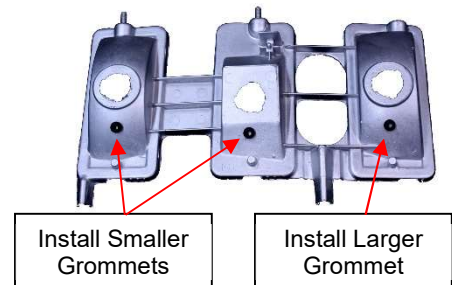

Figure 1
2. On the bottom surface of the center and inboard light cells within the housing, drill a 5/16" diameter hole and deburr hole. (See Figure 1) Then install a provided smaller rubber grommet into each of the drilled holes. On the bottom surface of the outboard light cell within the housing, drill a 3/8" diameter hole and deburr hole. Then install a provided larger rubber grommet into the drilled hole. The exact location of the holes are not critical. Note, one method to simplify installation is to pinch grommet, insert protruding edge into the hole, then use a small flat blade screwdriver to push/work the remaining edge through the hole.